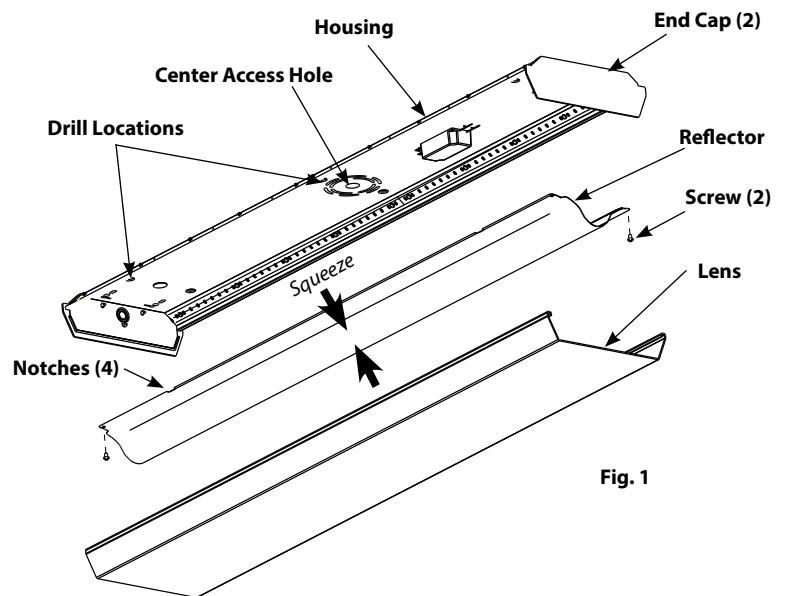

Fig. 1
2. Remove **Screws (2)** from **Reflector** and discard. Squeeze center of **Reflector** and release from **Notches**.
3. Pull supply wires from Junction Box (not supplied) through **Center Access Hole** of **Housing** as shown in Fig. 1. Use appropriate UL approved wire connectors as required by code to make electrical splices to fixture leads.